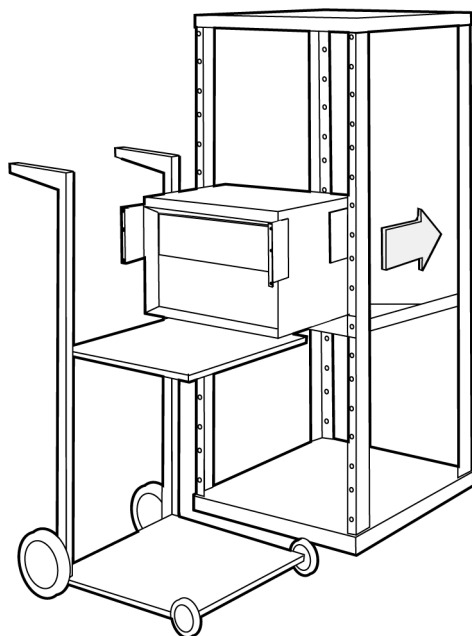

Figure 24: Positioning the switch in the rack
1. Carefully position the switch in the front of the rack and onto the rail tray, and slide the switch back on the rails until the front mounting brackets are against the front rack columns. Figure 24 illustrates using a lifting jack to position the switch.